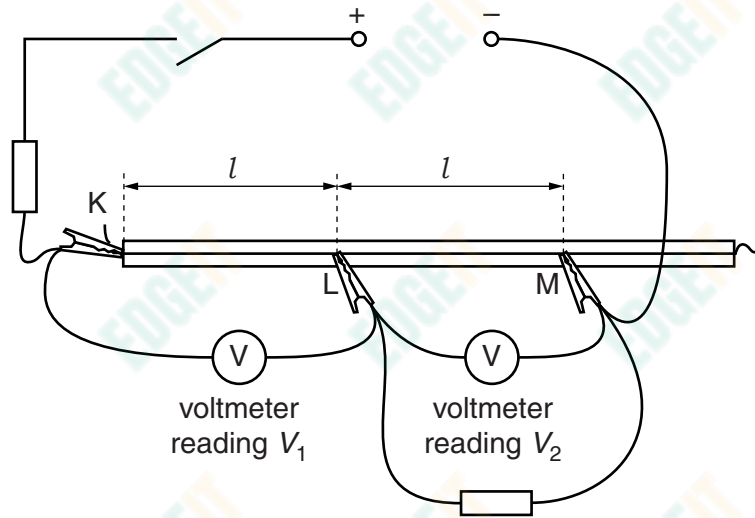

Fig. 1.2
- (iii) Use the other resistor and the other voltmeter to complete the circuit shown in Fig. 1.2.
- (ii) Record the voltmeter readings V_1 and V_2 as shown in Fig. 1.2.